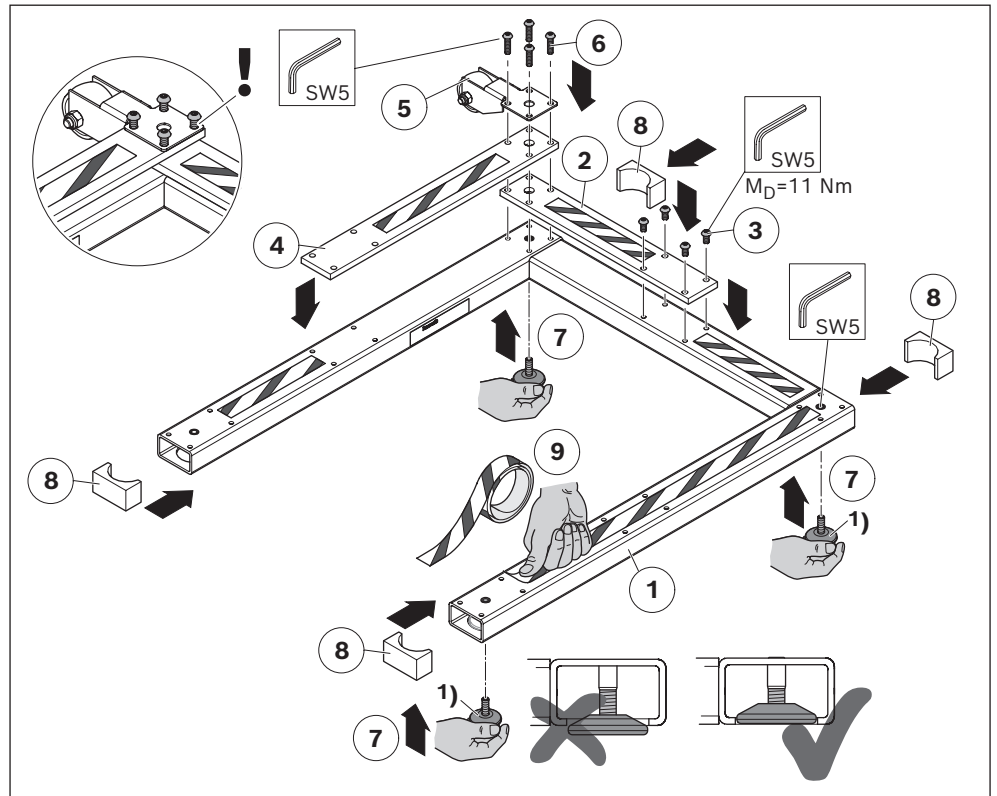

Fig. 32: Preassembling the side bracket
2. Preassemble the side bracket for right-hand (see Fig. 32, steps 1 to 8) or left-hand (mirror-inverted) loading. Reuse the adjusting wheels¹⁾ of the previously disassembled boom here.